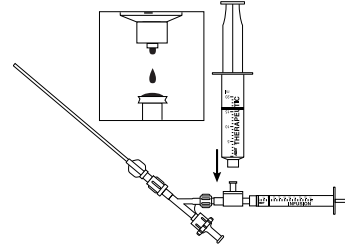

Figure 8
12. The reservoir syringe containing saline is removed from the inlet port of the check valve. Replace it with a syringe containing the desired therapeutic solution. Drip a tiny volume of therapeutic solution into the input port luer lock to raise a meniscus as the connection is made (Figure 8), thereby preventing the introduction of air bubbles into the system.